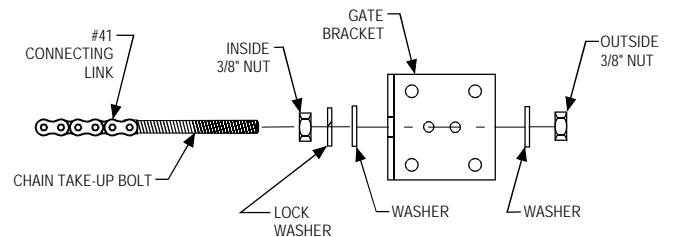

Figure 5
- (2.) Attach a chain take up bolt to drive chain using a #41 connecting link (See Fig. 5).
- (3.) Install chain take up bolt into in furthest gate bracket, and secure into position with 3/8 inch washers, and nuts (See Fig 5).